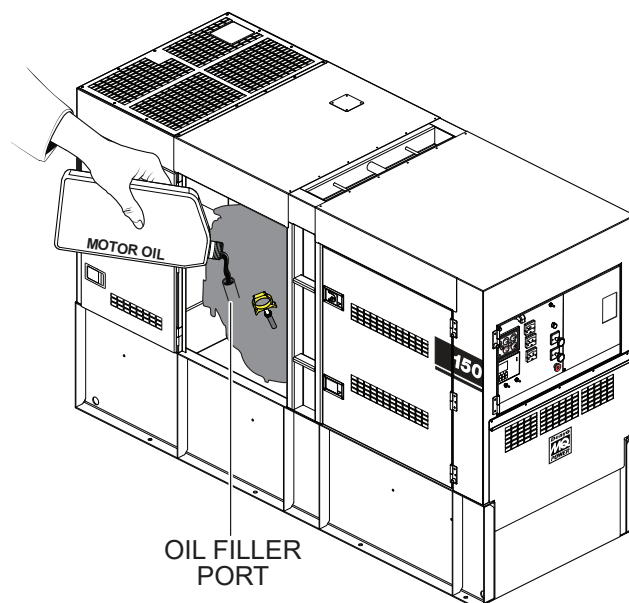

Figure 36. Engine Oil Filler Port
5. If the engine oil level is low (Figure 35C), remove the cap from the oil filler port (Figure 36) and fill to a safe operating level (max) as indicated by the dipstick (Figure 35A). Fill with recommended type oil as listed in Table 12. Maximum oil capacity is 8.58 gal. (32.5 liters).